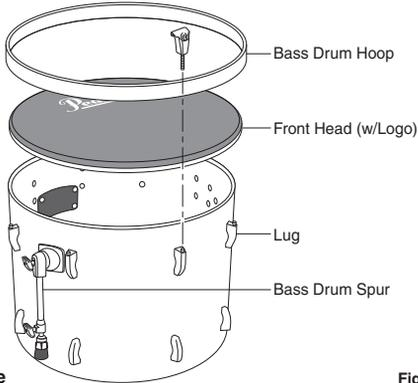

Fig.1
1. Place the shell on a clean, solid surface with the Bass Drum Spurs and the Tom Holder Bracket facing upward. Put the Front Head with Logo on the shell then attach the Hoop with flat side down on the rim of the head (Fig.1).